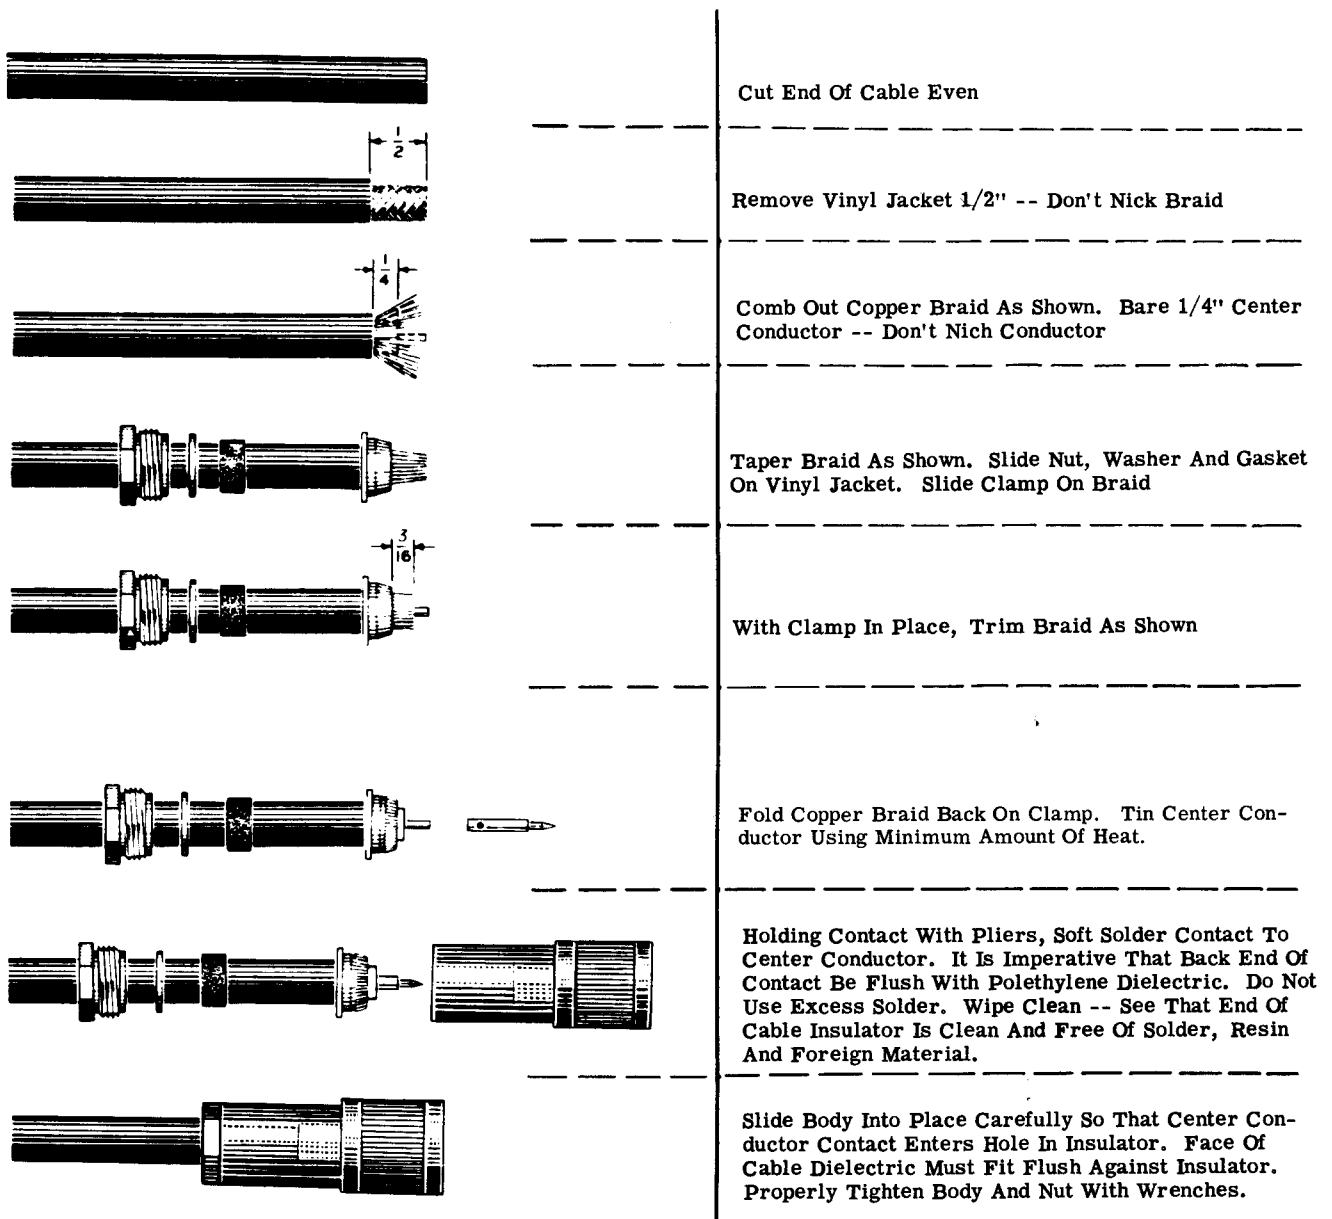

Figure 3-5. Cable Fabrication, UG-21B/U Plug
(2) PAN. (UG-88/U PLUG).—Use the same procedure as outlined for fabrication of I-F cable in the preceding paragraph.
(3) ANT (UG-21B/U PLUG).—Using a cable having an outside diameter of  $\frac{3}{8}$  inch and a characteristic impedance of 70 ohms such as RG-12/U or equivalent and fabricate cable to plug according to the instructions in figure 3-5. If armored cable is used make certain that rear connector nut grips armor securely.